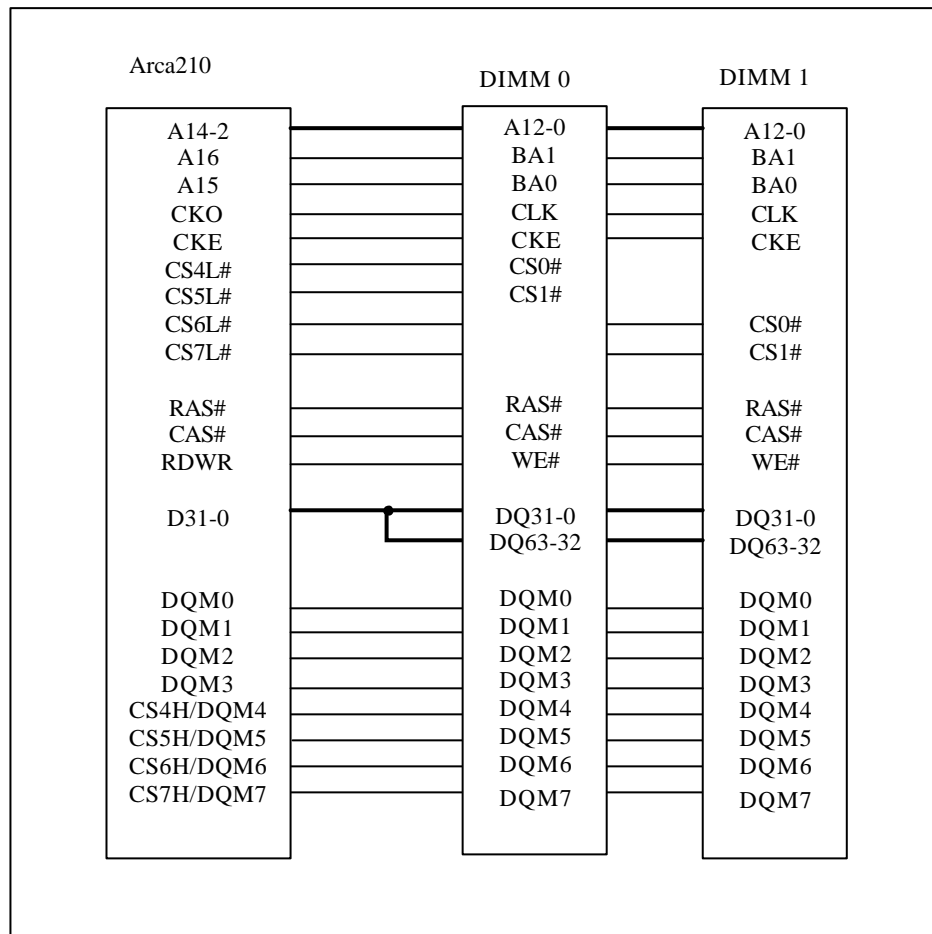

Figure 3-21 Example of Synchronous DRAM 144-pin DIMMs Connection
- In system using 144-pin SODIMMs, SODIMM bit of DMCR should be set to 1 and CS bit should be set to 0. 4 chip selects correspond to 2 SODIMM cards. CSnL# are used as chip-select signals and CSnH# are used as DQMn# (n = 4 to 7). When lower half of bank n is accessed, DQM0# - DQM3# are used as byte-mask-enable signals. When upper half of bank n is accessed, DQM4# - DQM7# become byte-mask-enable signals (n = 4 to 7). Figure 3-21 shows an example of 144-pin DIMMs connection.